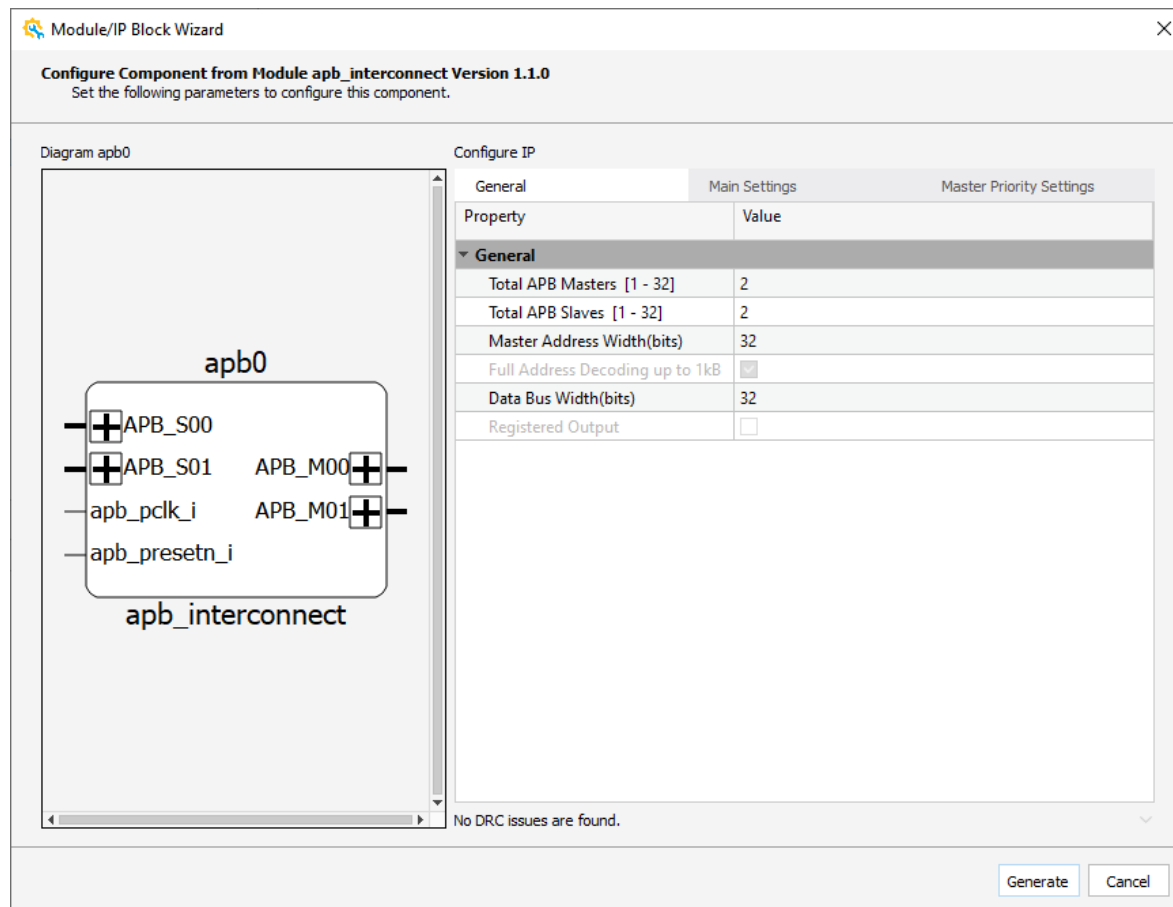

Figure 2.67. Module/IP Block Wizard – Configure Component
- Double-click the module, or right-click the module you want to reconfigure. Choose **Reconfig**. The Module/IP Block wizard (Figure 2.67) opens.